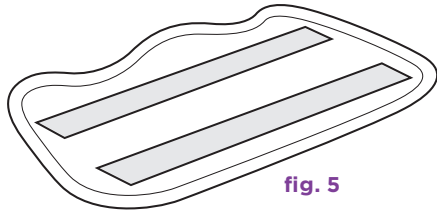

fig. 5
3 Mop with a forward and backward motion to customize steam output automatically. (**fig. 5**)
- 1 Wash pads in warm water. Wash separately from other laundry. Only use liquid detergent (no powder detergent). Do not use fabric softeners. Line dry or dry on a low dryer setting. (fig. 5)